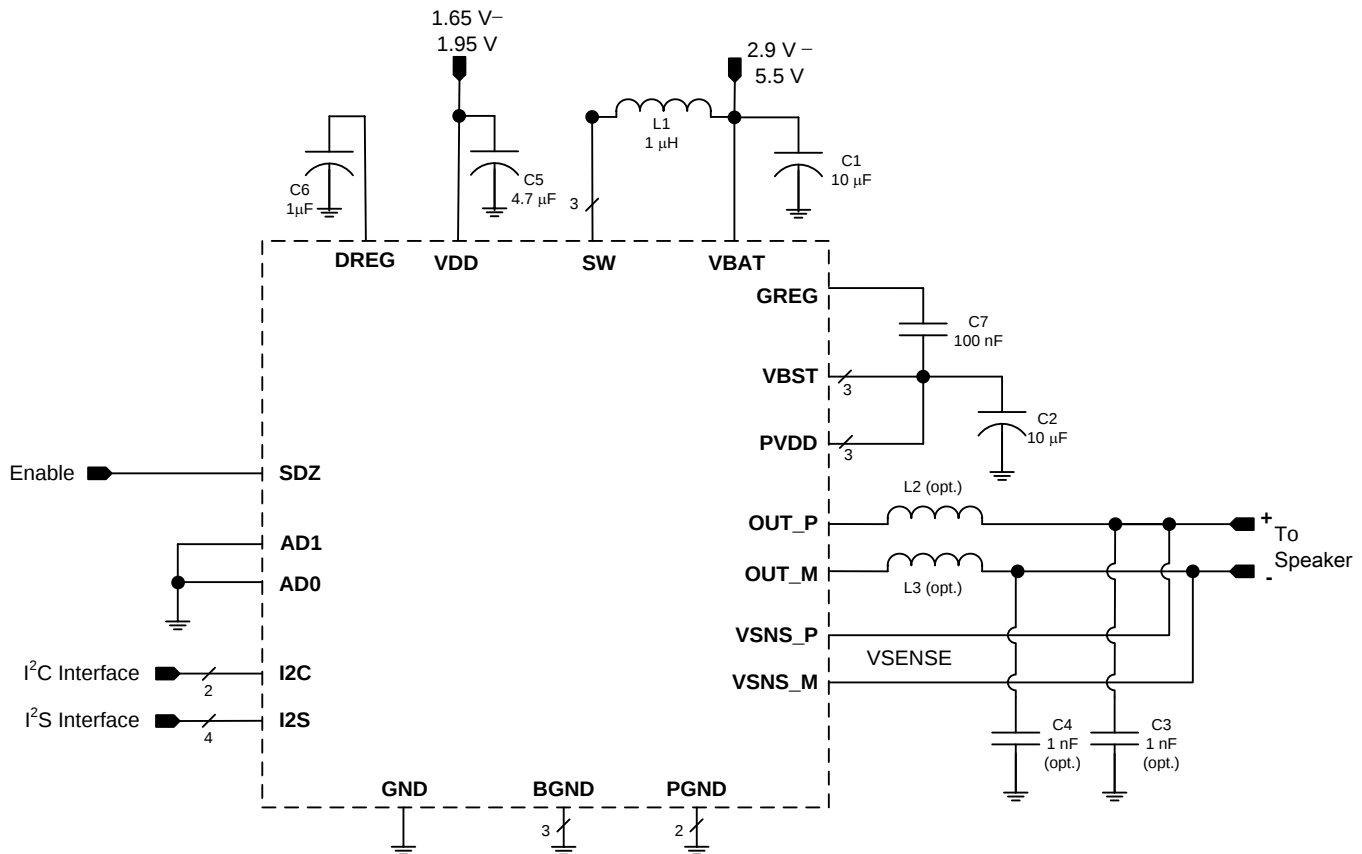

图 69. Typical Application - Digital Audio Input
The boost converter requires three passive devices that are labeled L1, C1 and C2 in 图 69 and whose specifications are provided in 表 298. These specifications are based on the design of the TAS2562 and are necessary to meet the performance targets of the device. In particular, L1 should not be allowed to enter in the current saturation region. The saturation current for L1 should be > I_{LIM} to deliver Class-D peak power.
The TAS2562 supports edge-rate control to minimize EMI, but the system designer may want to include passive devices on the Class-D output devices. These passive devices that are labeled L2, L3, C3 and C4 in Figure 69 and their recommended specifications are provided in Table 298. If C3 and C4 are used, L2 and L3 must also be installed, and C3 and C4 must be placed after L2 and L3 respectively to maintain the stability of the output stage.
The boost supply (VBAT) and associated passives need to be able to support the current requirements of the device. By default, the peak current limit of the boost is set to 4A. Refer to 表 92 for information on changing the current limit. A minimum of a 10 µF capacitor is recommended on the boost supply to quickly support changes in required current. Refer to 图 69 for the schematic.
- Use supply decoupling capacitors as shown in Figure 69 and described in Power Supplies.